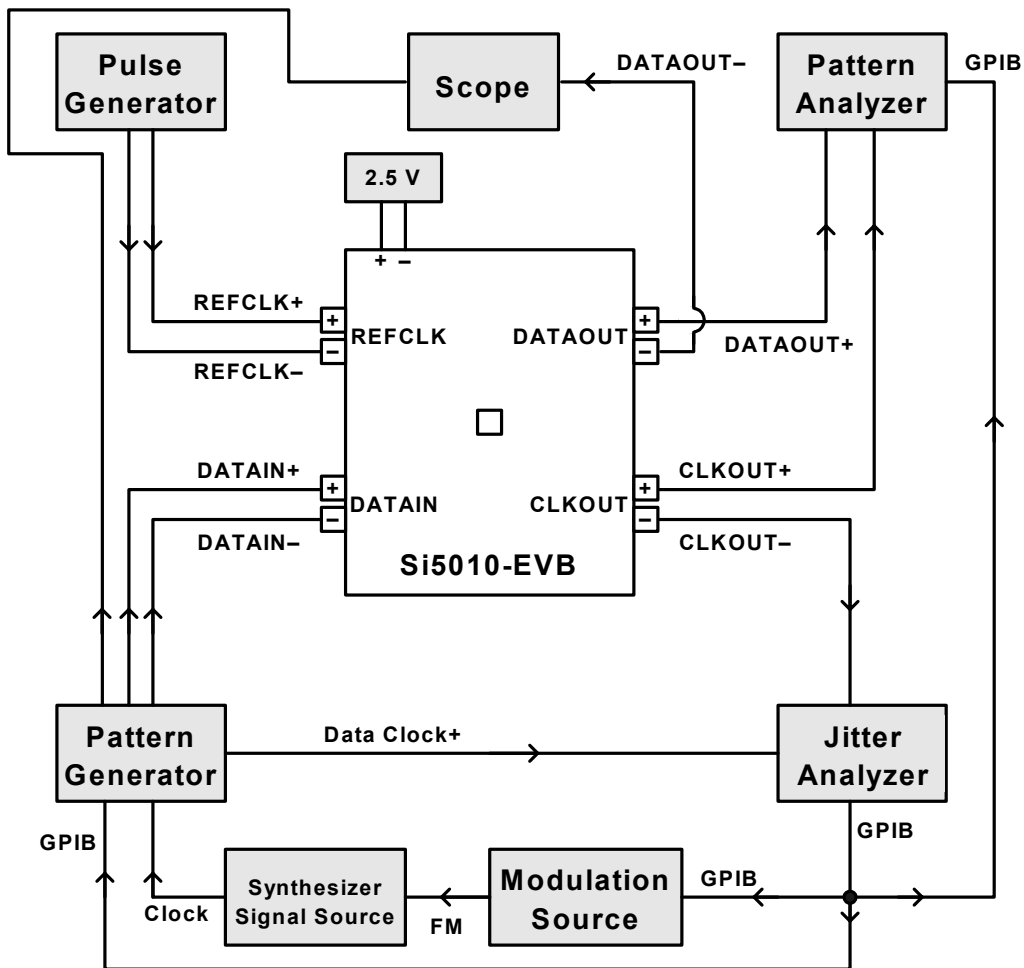

Figure 2. Test Configuration for Jitter Tolerance, Transfer, and Generation
The three critical tests that are typically performed on a CDR device are jitter transfer, jitter tolerance, and jitter generation. By connecting the Si5010 Evaluation Board as shown in Figure 2, all three measurements can be easily made.
**Jitter Tolerance:** Referring to Figure 2, this test requires a pattern generator, a clock source (synthesizer signal source), a modulation source, a jitter analyzer, a pattern analyzer, and a pulse generator (all unconnected high-speed outputs must be terminated to  $50 \Omega$ ). During this test the Jitter Analyzer causes a modulation on the data pattern which drives the DATAIN ports of the CDR. The Bit-Error-Rate (BER) is monitored on the Pattern Analyzer. The modulation (jitter) frequency and amplitude is recorded when the BER approaches a specified threshold.
**Jitter Generation:** Referring to Figure 2, this test requires a pattern generator, a clock source (synthesizer signal source), a jitter analyzer, and a pulse generator (all unconnected high-speed outputs must be terminated to  $50 \Omega$ ). During this test, there is no modulation of the Data Clock, so the data that is sent to the CDR is jitter free. The Jitter Analyzer measures the RMS and peak-to-peak jitter on the CDR CLKOUT. Thus, any jitter measured is jitter generated by the CDR.
**Jitter Transfer:** Referring to Figure 2, this test requires a pattern generator, a clock source (synthesizer signal source), a modulation source, a jitter analyzer, and a pulse generator (all unconnected high-speed outputs must be terminated to  $50 \Omega$ ). During this test the Jitter Analyzer modulates the data pattern and data clock reference. The modulated data clock reference is compared with the CLKOUT of the CDR. Jitter on CLKOUT relative to the jitter on the data clock reference is plotted versus modulation frequency at predefined jitter amplitudes.